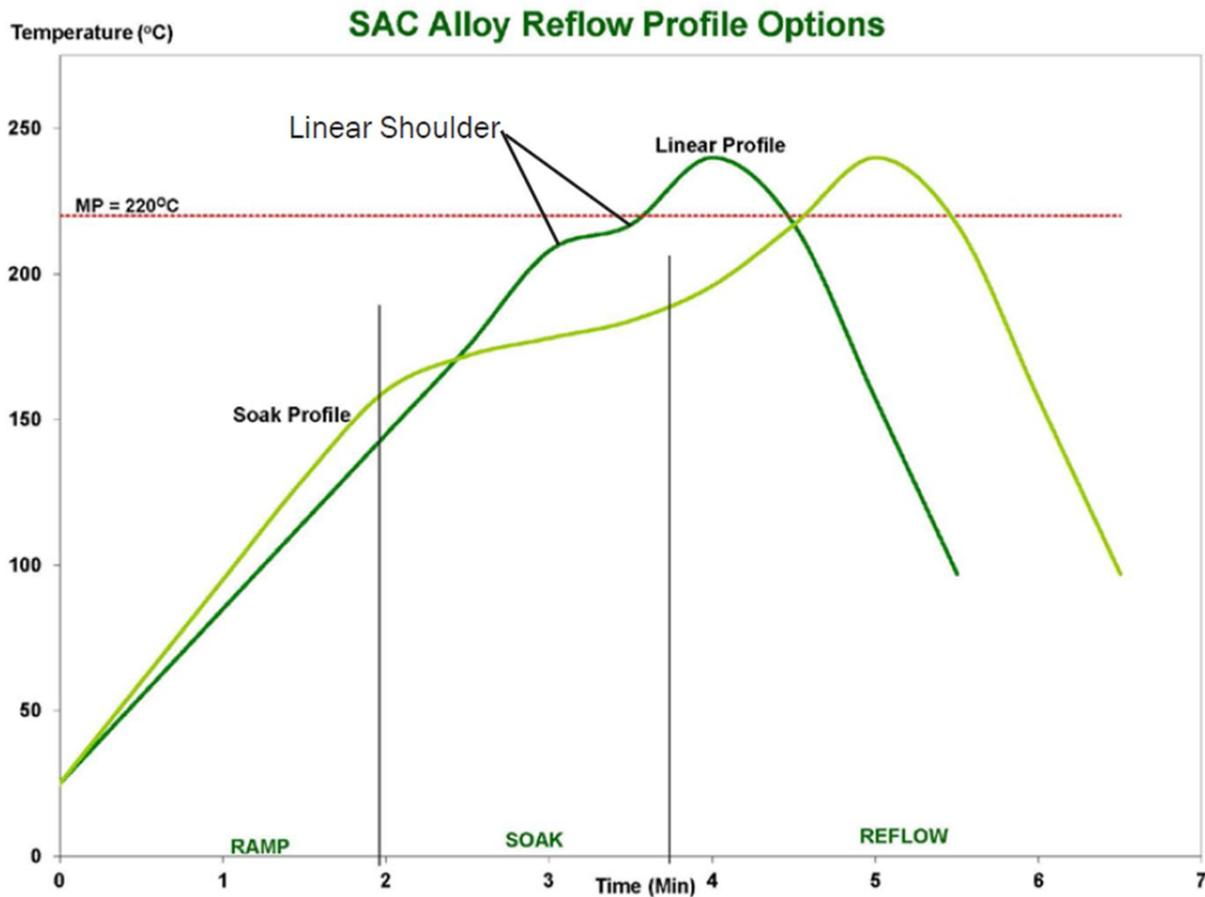

Figure 4. Typical solder reflow profile for SAC305 type of solder paste (courtesy of Indium Corp.)
Microsemi LGAs are Pb-free and compatible with either Sn/Pb or Pb-free assembly techniques. After paste print and part placement, solder attach is achieved by ramping the part to pre-heat, thermal soak, solder reflow, and then cool as shown in figure 4. Use of a no-clean (NC) flux is required, as removal of all flux under the LGA is very difficult. Microsemi recommend uses of SAC305, type 3 or type 4 solder paste. The maximum peak reflow temperature should be $\leq 250^{\circ}\text{C}$. Please consult with